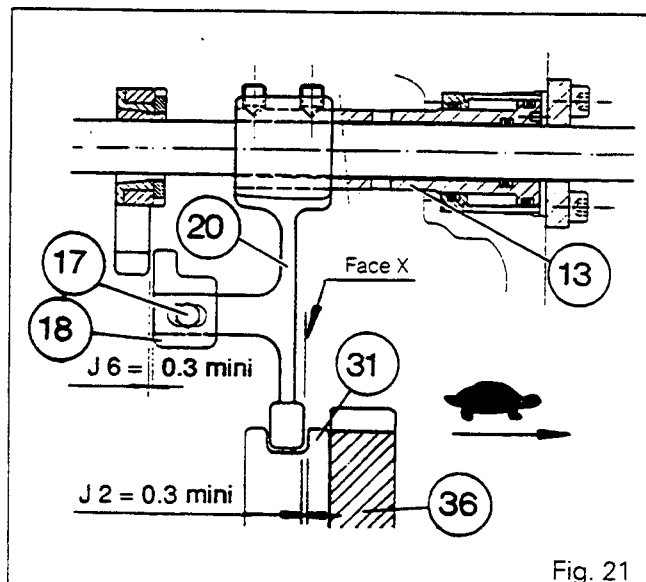

Fig. 21
78. Set the control piston (13) and the synchromesh to the low range (Tortoise).
79. Check that there is a play of **J2 = 0.3 min.** (value determined by setting J1) between the pad and the synchromesh slide rod, with the slide rod resting against the low range gear (36) (Fig. 21). Tighten the screws to a torque of 35 Nm without modifying the setting.
Note: In the Tortoise position, play J1 must be increased if face X of the pad on fork (20) is bearing against the synchromesh slide rod (Fig. 21).
81. Slightly loosen the castellated nut (21). Apply a moderate coat of Loctite 270 on the thread of cone (24).